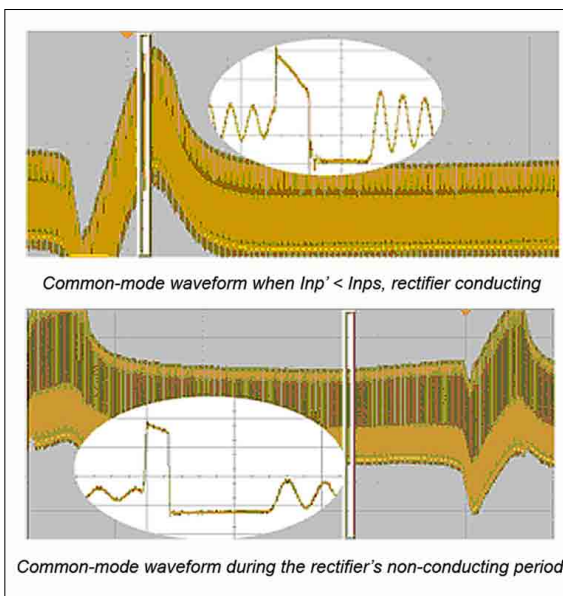

Figure 2.
2. $In_p < In_s$ —the waveform is proportional to the inverted switching signal—see the top trace in figure 2.
As the bottom trace in figure 2 shows, the waveform during the BNT interval will always be the inverted switching signal, as the main noise source is the primary pushing current to Earth through capacitor C_{pe} .